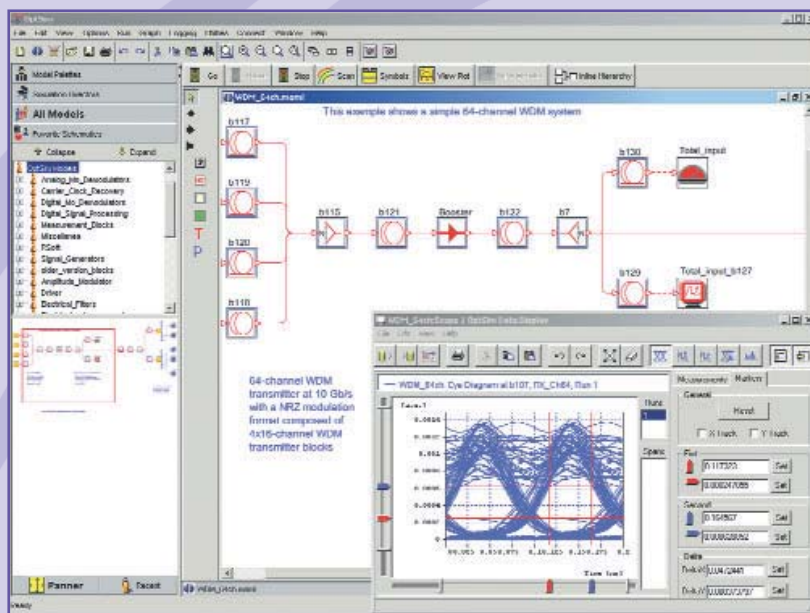

Figure 3: OptSIM 4.0's new Graphical User Interface
*OptSim* 4.0 sports a brand new advanced user interface, shown in Figure 3. Not only is it more powerful and user-friendly than ever before, it is also user-customizable. While being completely new with many powerful features, it also has retained much of the familiar look and feel that customers of both *LinkSIM* and *OptSim* expect. For example, all the component icons from both tools remain the same in *OptSim* 4.0. Some of the powerful new features are highlighted below: